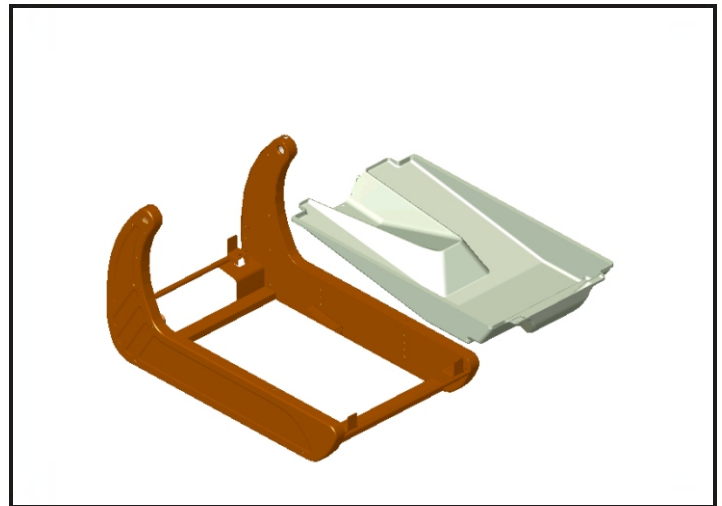

Figure 2-2: Remove the Pan
2. Remove the Dust Pan Assembly from the frame (see Figure 2-2: Removing the Pan).